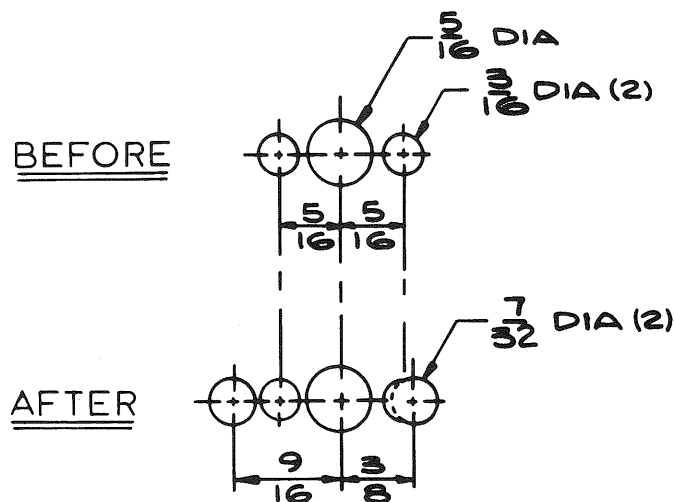

FIG. 1
- ( ) 4. Refer to Fig. 1 and drill a new 7/32 in. hole near Q234 and, using a rattail file, enlarge the rear mounting hole as shown.